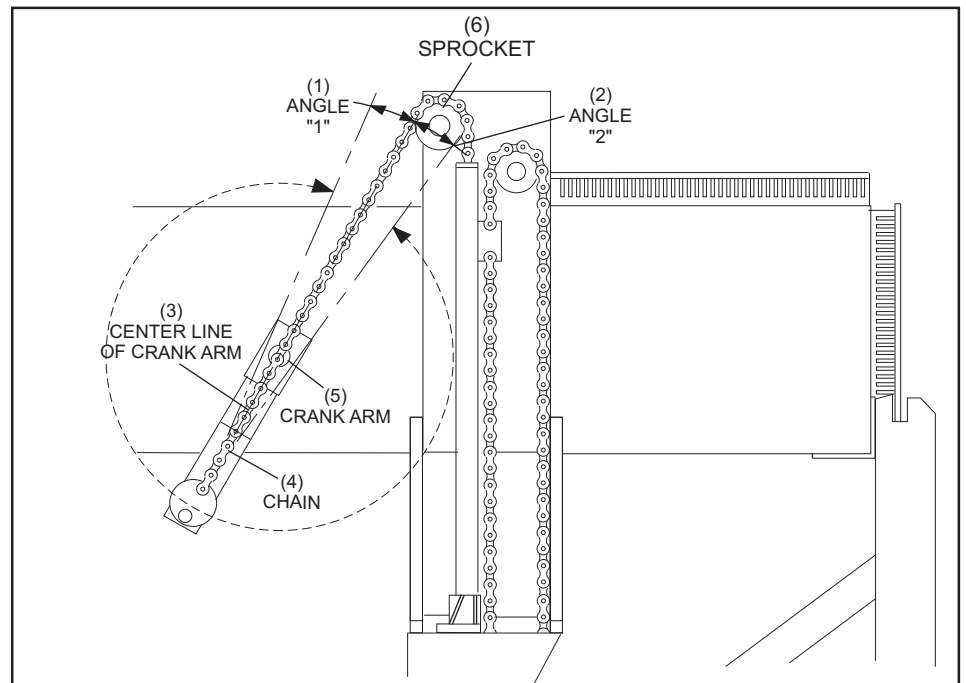

Figure 5-30 Chain Angles - Clockwise vs Counter-Clockwise
- c. To verify the timing is correct, compare the distance the drive chain is offset from the center line of the crank arm when the table motor turns off at the "A" switch after running clockwise and counterclockwise. The offset distances or angles should be equal. Refer to *Figure 5-30*.